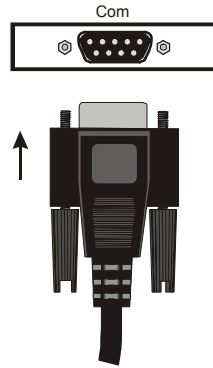

Figure 1-28
- ✓ Connect your serial cable to an available COM port on the back of your computer as shown in Figure 1-28.
- ✓ Connect the COM port adaptor either directly to your Board of Education or HomeWork Board, or connect it to the serial cable as shown in Figure 1-28.